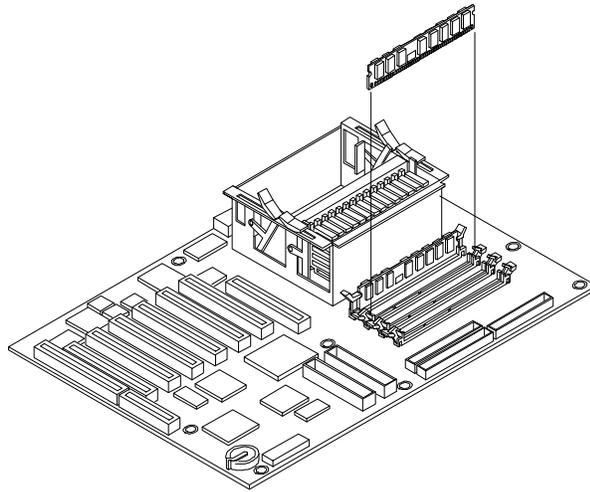

Figure 5-3. DIMM Insertion
- e. Holding the DIMM at 90 degrees to the system board, press the DIMM fully into the socket until the retaining clips close (see Figure 5-3). If the clips do not close, the DIMM is not inserted correctly.